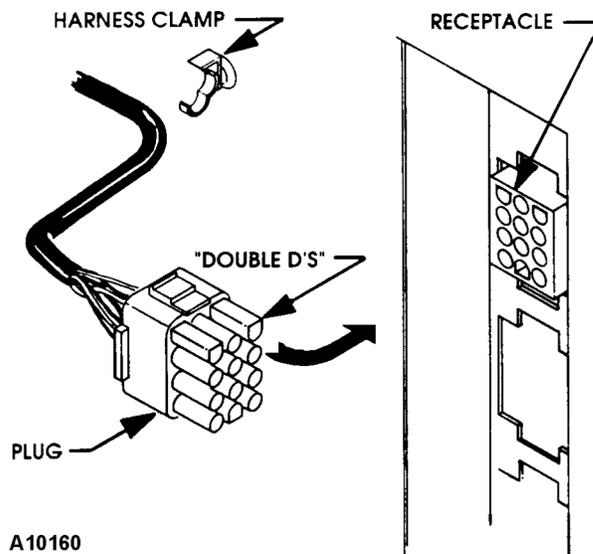

Figure 13
2. Disengage the tray harness from its snap open harness clamp on the right hand side wall. See **Figure 13**.